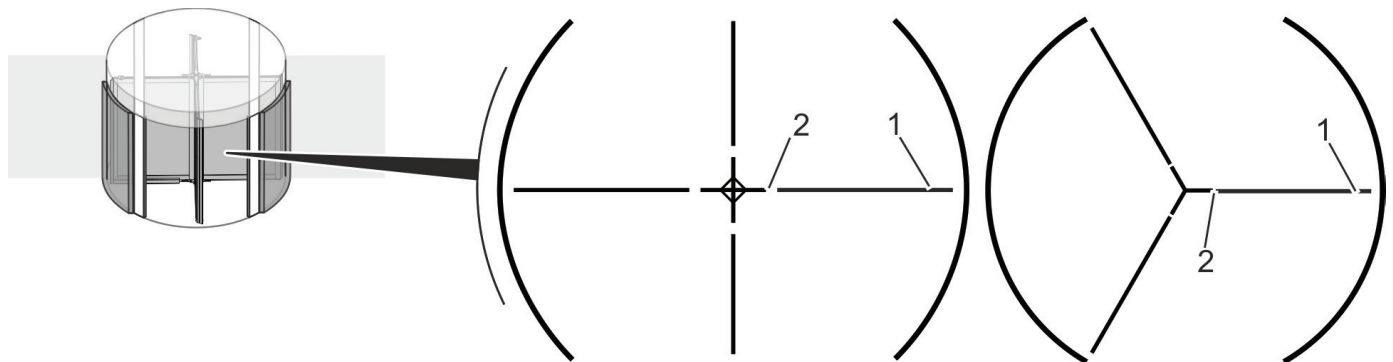

Fig. 13 Door wing in starting position (four and three wings)
3. Turn back the knob on the fitting (Fig. 13/2) in order to roll back the foldable wing (Fig. 13/1).
- » The door wings are in the starting position (Fig. 13).